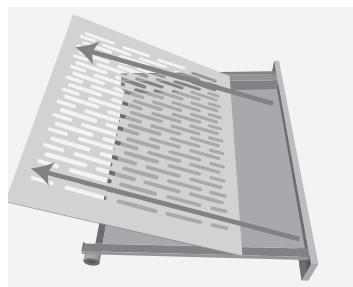

Figure 1
2. Remove the steel grate from the top of the drawer (See Figure 1).